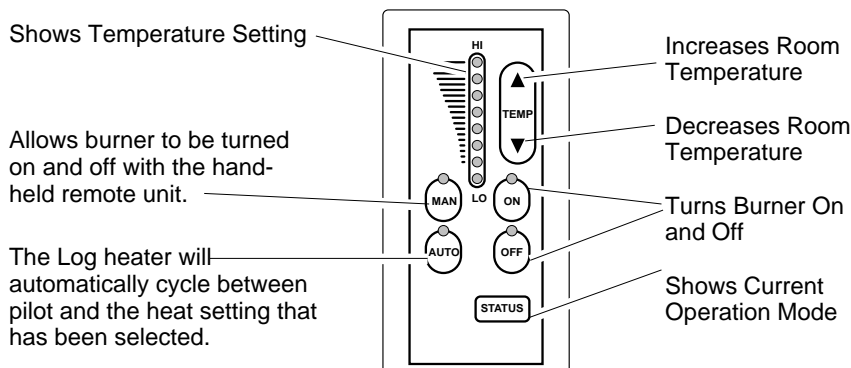

Figure 36 - Thermostat Hand-Held Remote Control Unit Selections (CGHRCT only)
- 2b. Select the MAN (manual) or AUTO button on the hand-held remote control unit (see Figure 36, page 18)